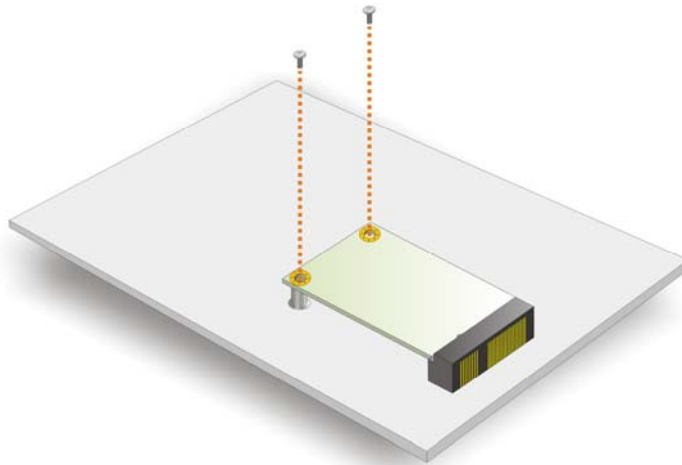

Figure 4-12: Secure the PCIe Mini Card
Step 4: **Secure the PCIe Mini card.** Secure the full-size PCIe Mini card with the retention screws previously removed (Figure 4-12).